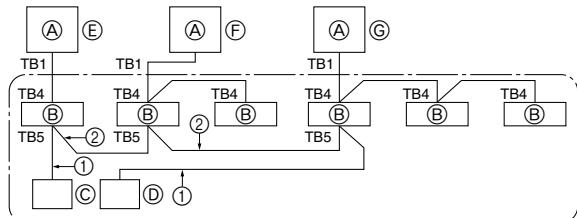

Fig. 8-1
8. Sistema de control (Fig. 8-1)
⑤ SW 1 - 3 ~ 6	ON